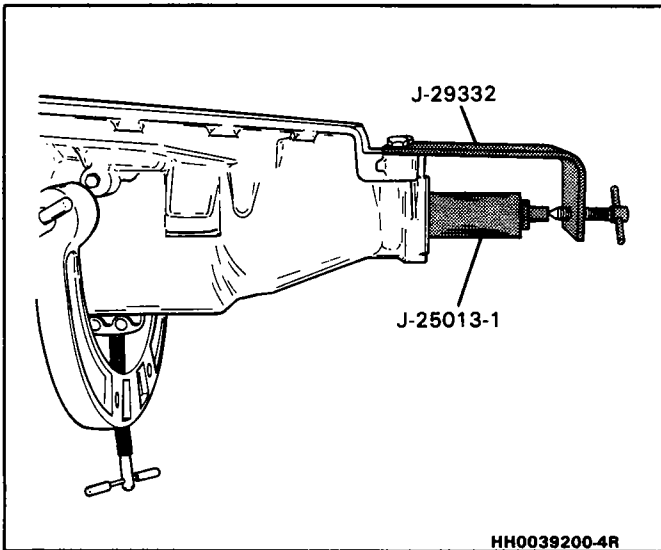

Figure 15 Installing Output Shaft and Rear Unit Support Fixture
**18 Measure (Figures 15 and 16)**
1. Remove an oil pump bolt (5) and install 25025-7A.